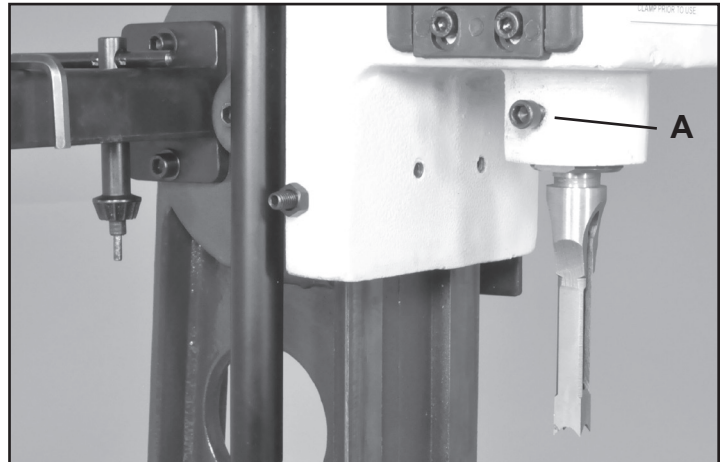

FIG. 9
4. Tighten the bushing set screw to secure the chisel in place. FIG. 9, A.